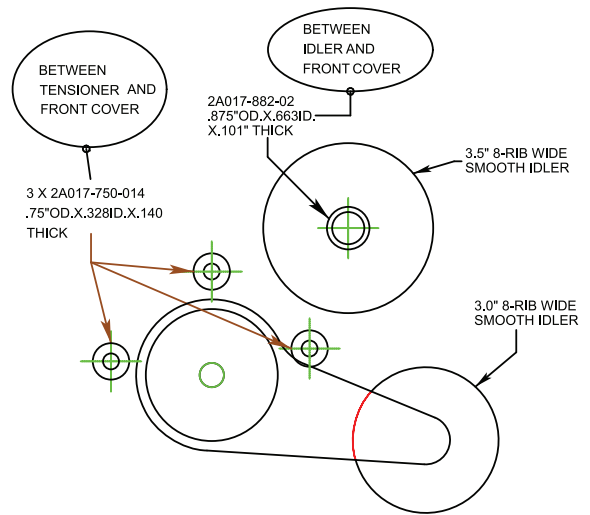

Fig. 6.1-a
3. Slide the three .75"OD x .328"ID x .140" spacers onto the three bolts protruding through the tensioner. (See Fig. 6.1-a)
4. Secure the tensioner assembly to the front of the engine. Use Fig. 6.1-a as guide for spacer placement.